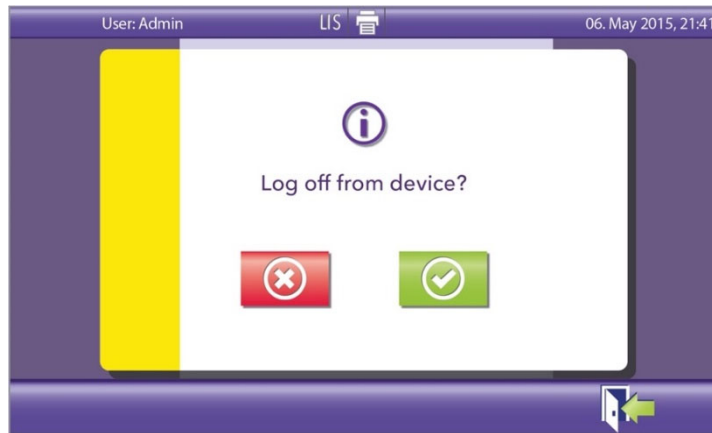

Figure 13
- Touch the  button to confirm logout (**Figure 13**).
- Touch the  button to confirm logout (Figure 13).